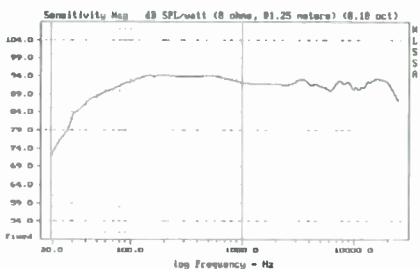
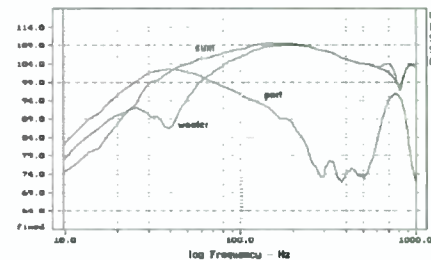

FIGURE 3: System response on tweeter axis at 48".
FIGURE 10: Near-field woofer and port responses and their complex sum.
*Figure 3* shows the on-axis frequency response of the A652. This curve is a composite of the quasi-anechoic response data above 200Hz, taken with the microphone placed on the tweeter axis at 48" and combined with near-field woofer and port data below 200Hz to complete the curve. The plot is normalized to a 1m distance to measure system sensitivity.
Near-field woofer and port responses are shown in *Fig. 10*. These responses are summed by the MLSSA system, properly weighting the difference in areas of the combined woofers and the port, to obtain the complete near-field system response. This response is then spliced to the quasi-anechoic response at 200Hz to get the complete system response, shown in *Fig. 3*, without the use of an anechoic chamber.
The dip in woofer response just below 40Hz indicates the box tuning frequency. The port output is near maximum at this point. The port curve also shows a peak 860Hz, which is the result of an "organ pipe" resonance in the port tube. This resonance causes a dip in the overall near-field response, but because the port exit is on the rear of the enclosure, it does not show up in the far-field responses of *Figs. 3* and *9*.